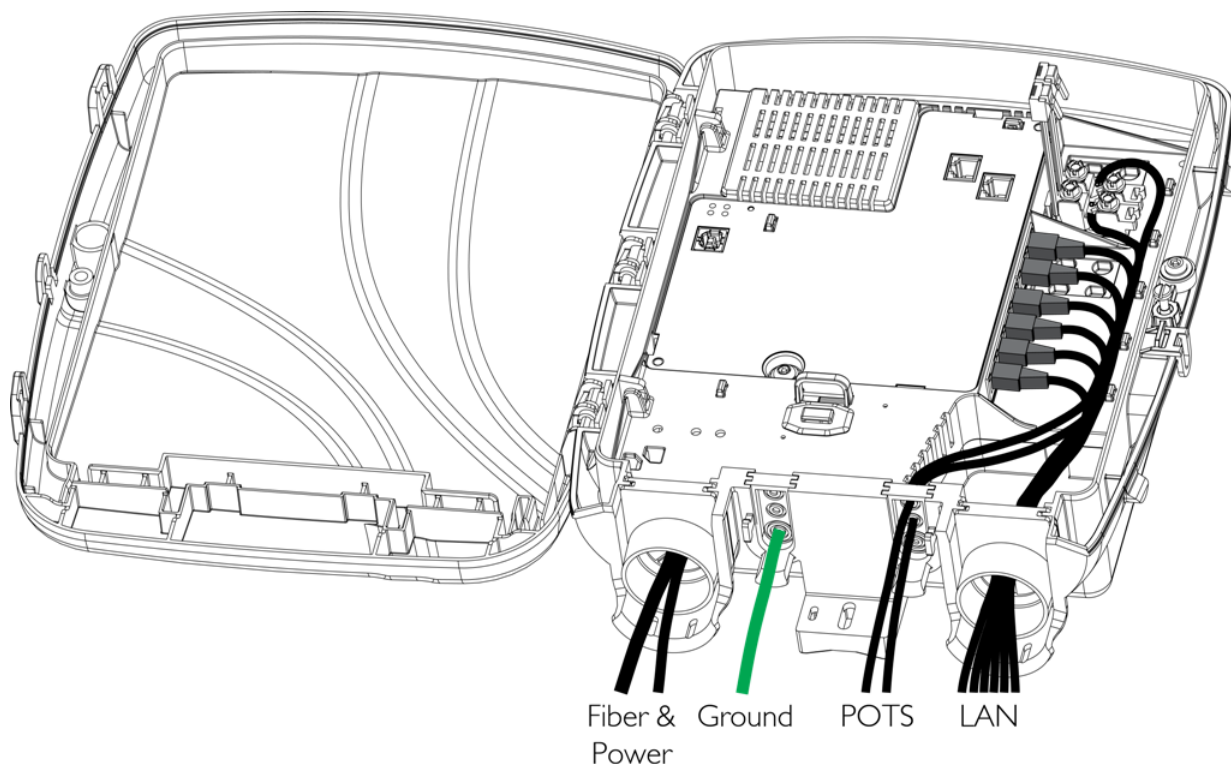

Figure 13: Example of Completed Configuration
3. The physical installation is now complete, as shown in Figure 13.